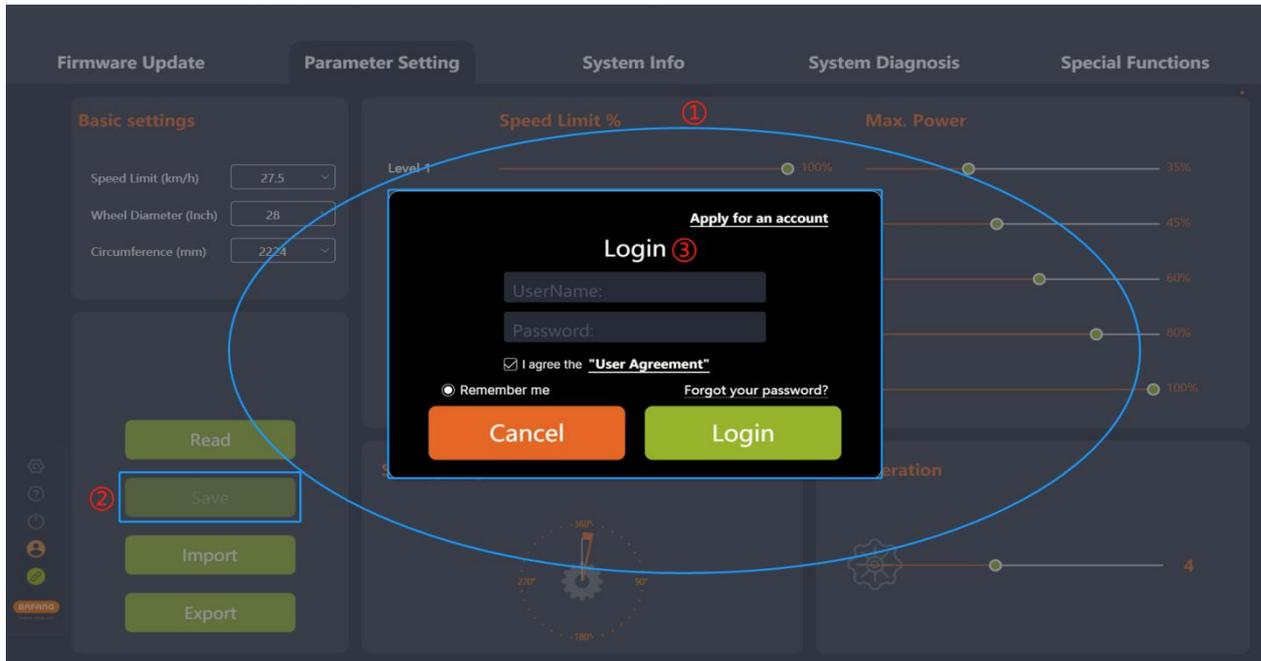

Fig. 5-5 Login
- (1) After reading successfully, adjust the parameters on the right side by pulling the slider.
- (2) After adjusting, click "Save" to save the new parameters to the controller.
- (3) If you are not logged in, the "Login" interface will pop up, prompting you to log in (Fig.5-5). Note: Parameter setting is not available without logging in.